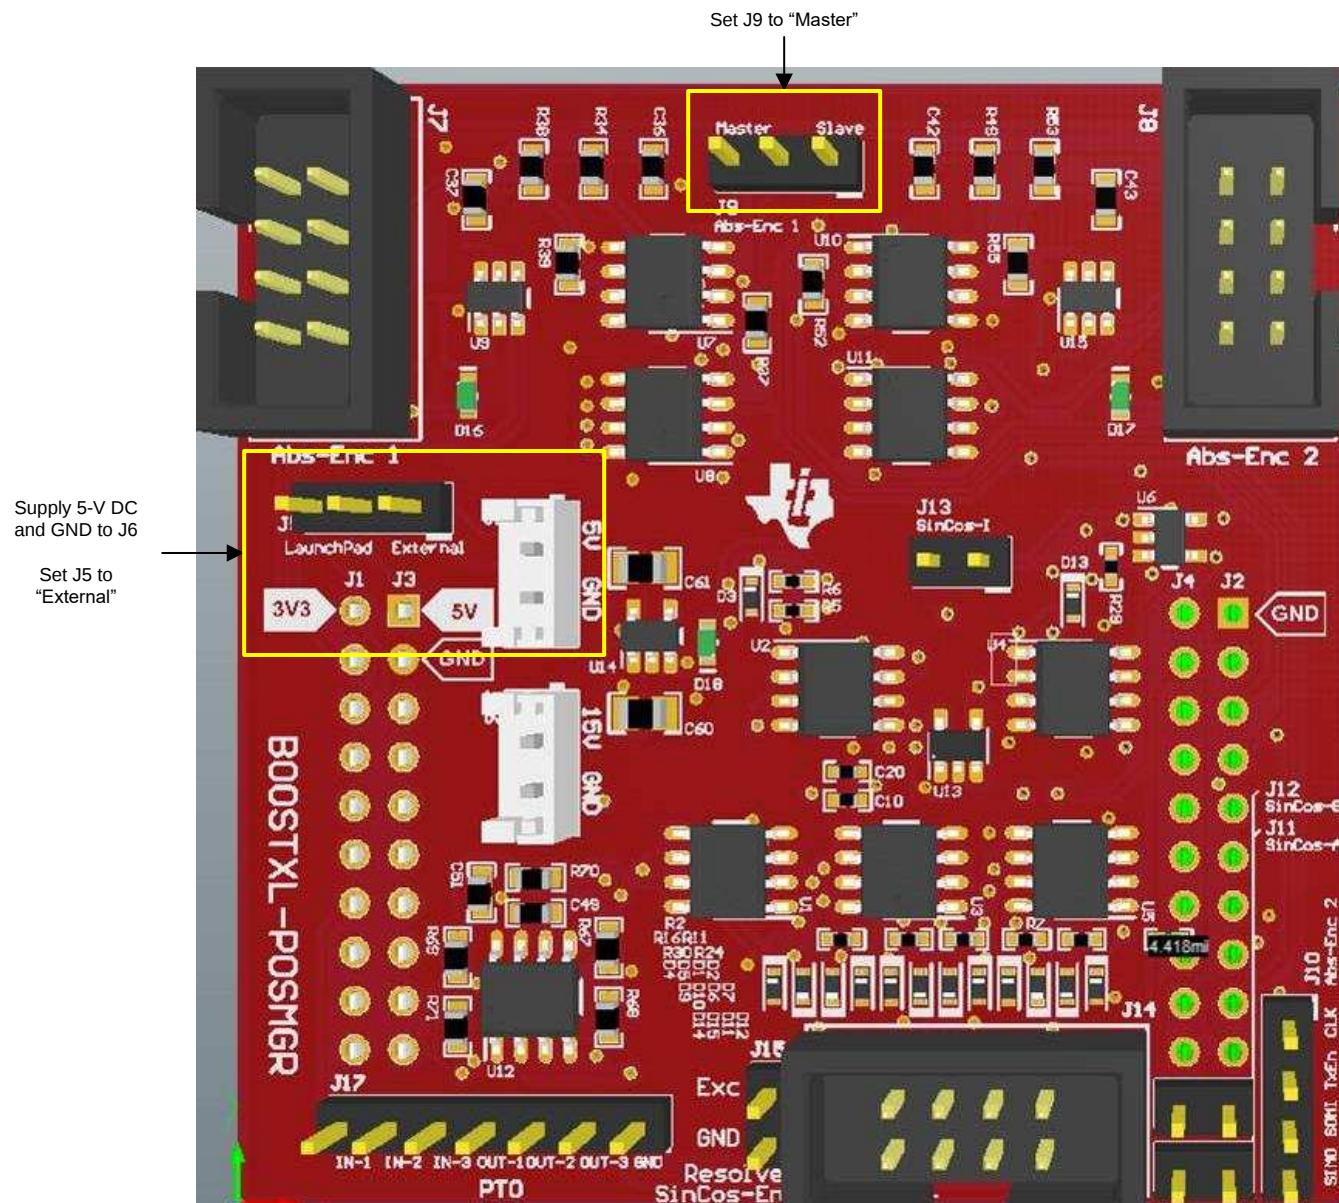
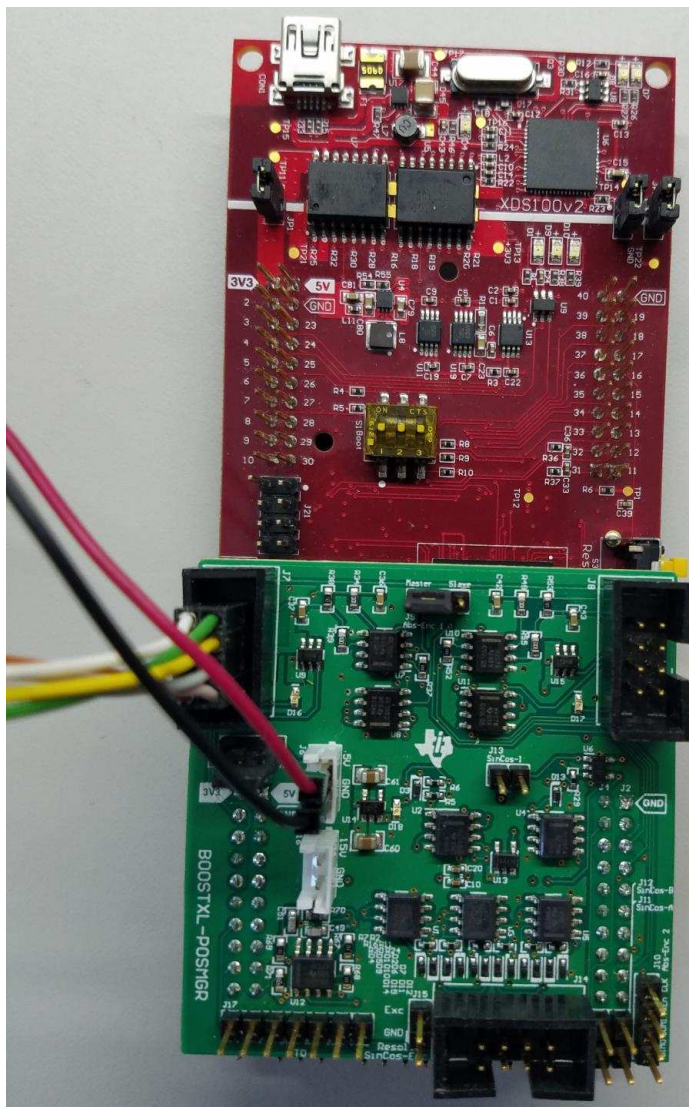

图 6. TIDM-1010 Board Jumper Configuration
图 12. TIDM-1010 Board Connected to BiSS-C Encoder
图 6 shows the jumper configuration for the TIDM-1010/BOOSTXL-POSMGR board.
⁽¹⁾ This configuration requires users provide an external power source to J6, as shown in 图 6.
5. Supply 5-V DC and GND to J6, as shown in 图 6. The board should now look like 图 12. LED D18 should be lit, which shows that the board has power.